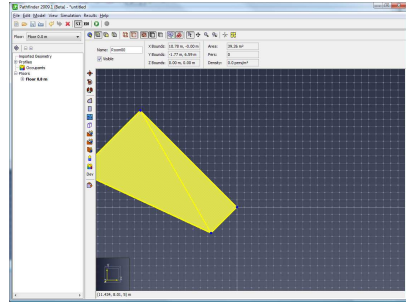

Figure 140. Rotated object
- The third defines a second vector extending from the rotation base (Figure 140). The rotation angle is the angle between these two vectors.